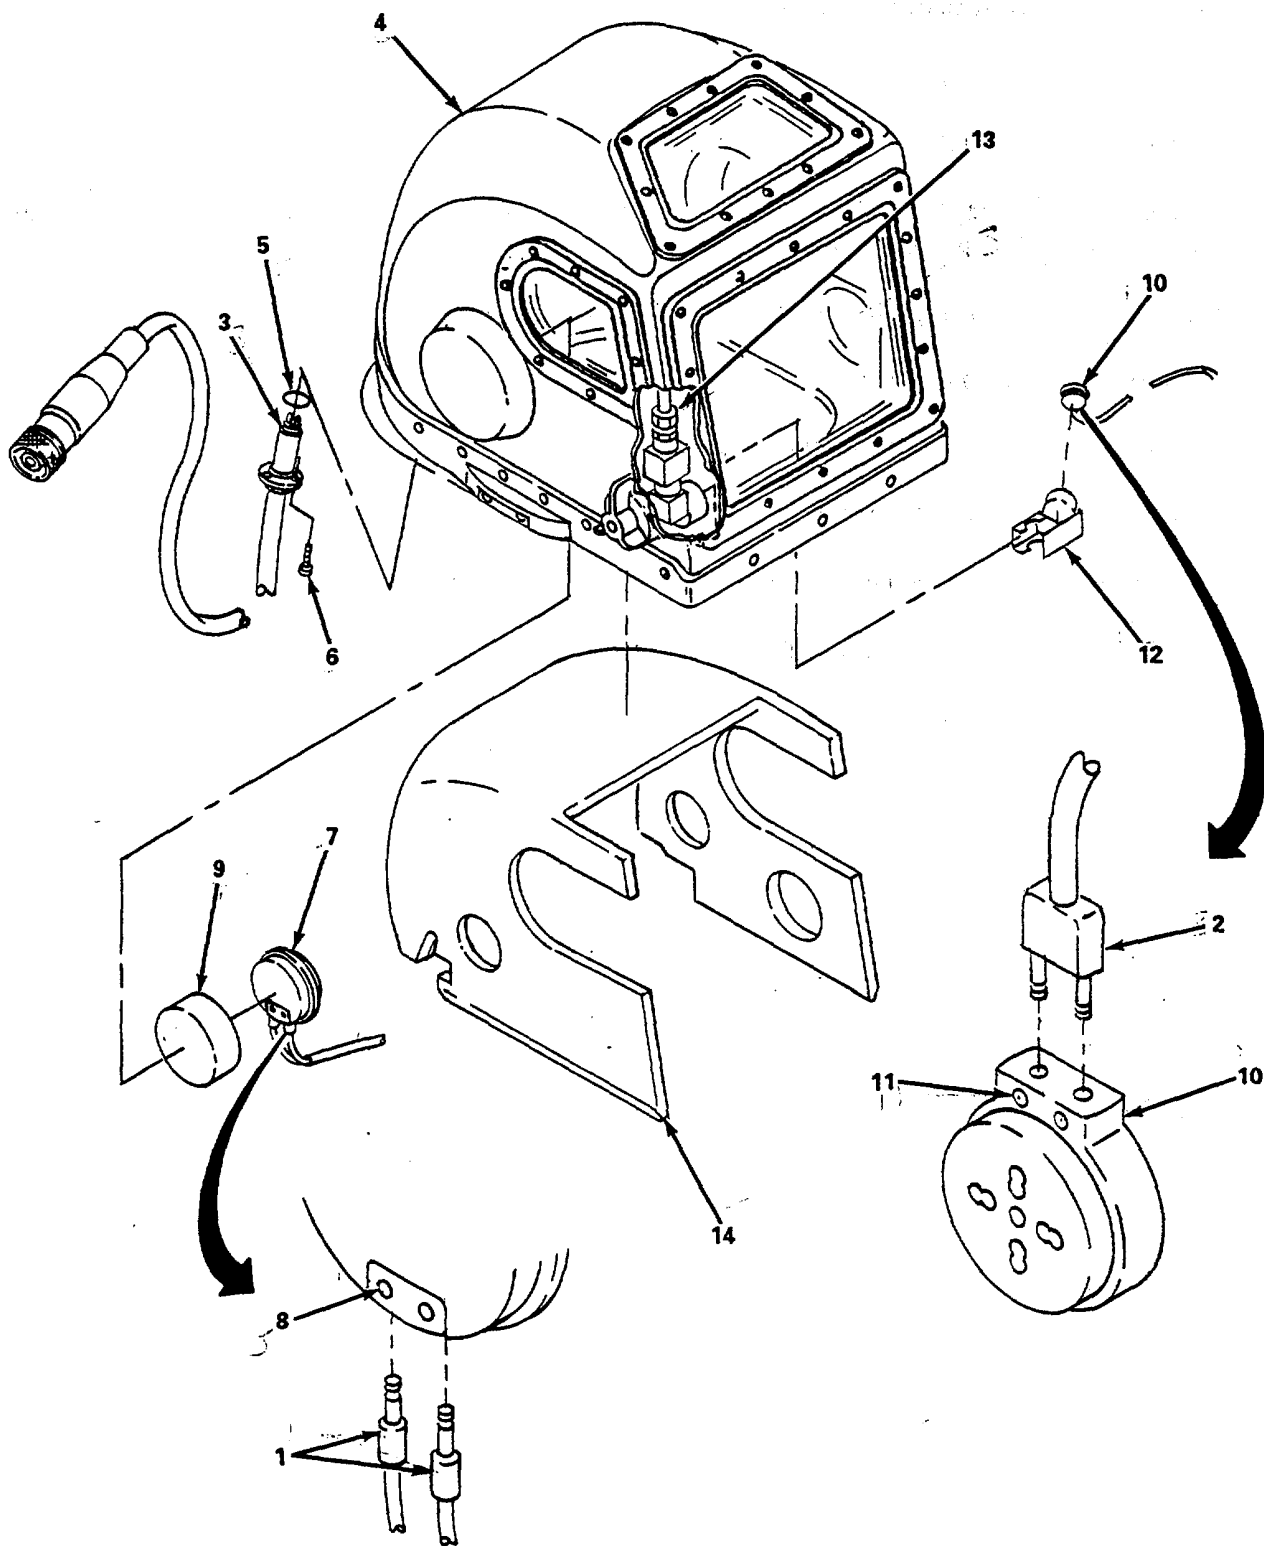

Figure 4-26. Helmet Communications Assembly, Assemble.
4-26. Helmet Communications (Cont).**(2) Assemble.** (figure 4-26)
- (a) Connect leads (1) and (2) as tagged to adapter (3) and solder.
- (b) Route leads (1) and (2) in helmet (4) and install adapter (3) and preformed packing (5) and secure with three screws (6). Torque screws to 13-15 in.-lb. (1.5-1.7 Nm).
- (c) Connect leads (1) as tagged to left speaker (7) and tighten two screws (8).
- (d) Install speaker (7) in holder (9).
- (f) Connect leads (2) as tagged to microphone (10) and tighten two screws (11).
- (g) Install microphone (10) in holder (12).
- (h) Connect holder (12) to air supply tube (13).
- (i) Install helmet liner (14).